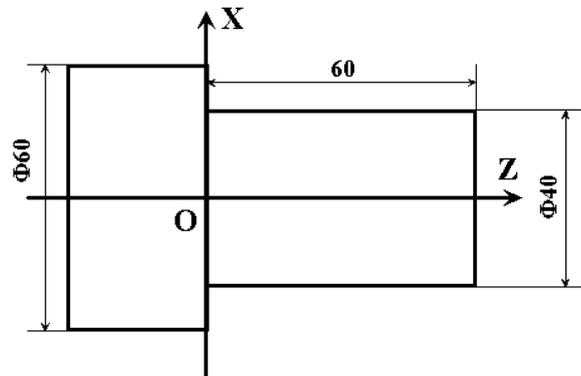

Fig. 5-1 Part diagram
Example 5-1: the workpiece is shown in the machining figure 5-1. The diameter of the workpiece step to be machined is 40mm, the length is 60mm, and the grinding surplus of the semi-finished products is 0.05mm.
- Workpiece coordinate: Set the axial line Z 0 and the step face as X 0. Create the coordinate system in figure 5-1 and use diameter programming method.
- Program (A) Programming in blocks: